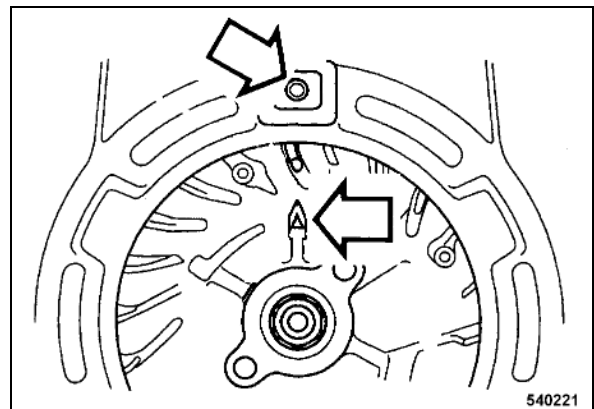

Fig. 47
- Align the alignment mark on the flywheel rib with the top bore in the fan cover (Fig. 47).